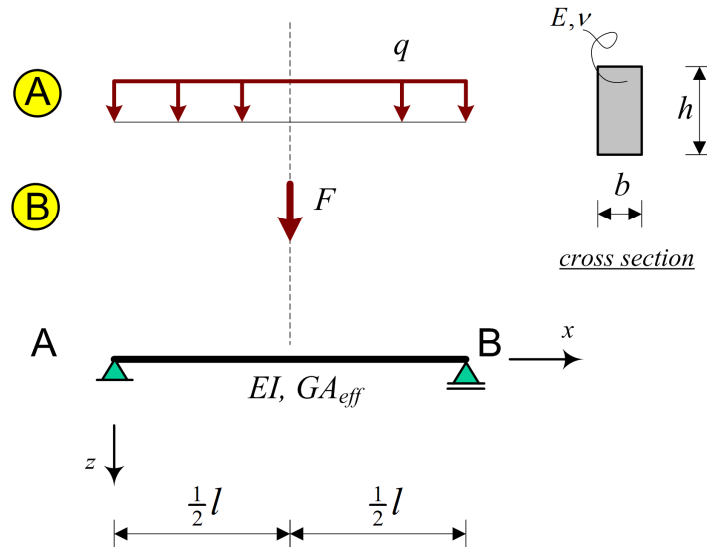

Figure 3: Beam with deformation due to both shear and bending.
A beam in which deformation due to shear and due to bending is taken into account is shown in figure 3. The bending stiffness is denoted with EI and the effective shear stiffness is expressed with GA_{eff} . The beam has a rectangular cross section with width b and depth h and is made out of a linear elastic material with Young's modulus E and Poisson ratio ν .
The beam, with span l , is loaded with two loadcases A and B as indicated in fig. 3. This problem focusses on the influence of the shear deformation on the deflection of the beam.
- Specify the expressions for both the effective shear stiffness and bending stiffness in terms of the given parameters from fig. 3. Explain what is meant with “effective” in relation to the shear stiffness and do not forget to mention the units.